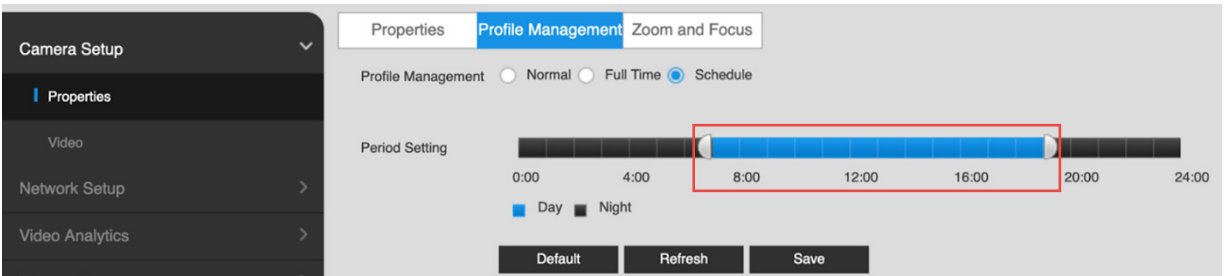

Fig. 4.14
13. Use the blue slider bar (Day) to configure the “Period Setting” time covering 7:00 hours to 19:00 hours, see Fig. 4.14. Save your settings.